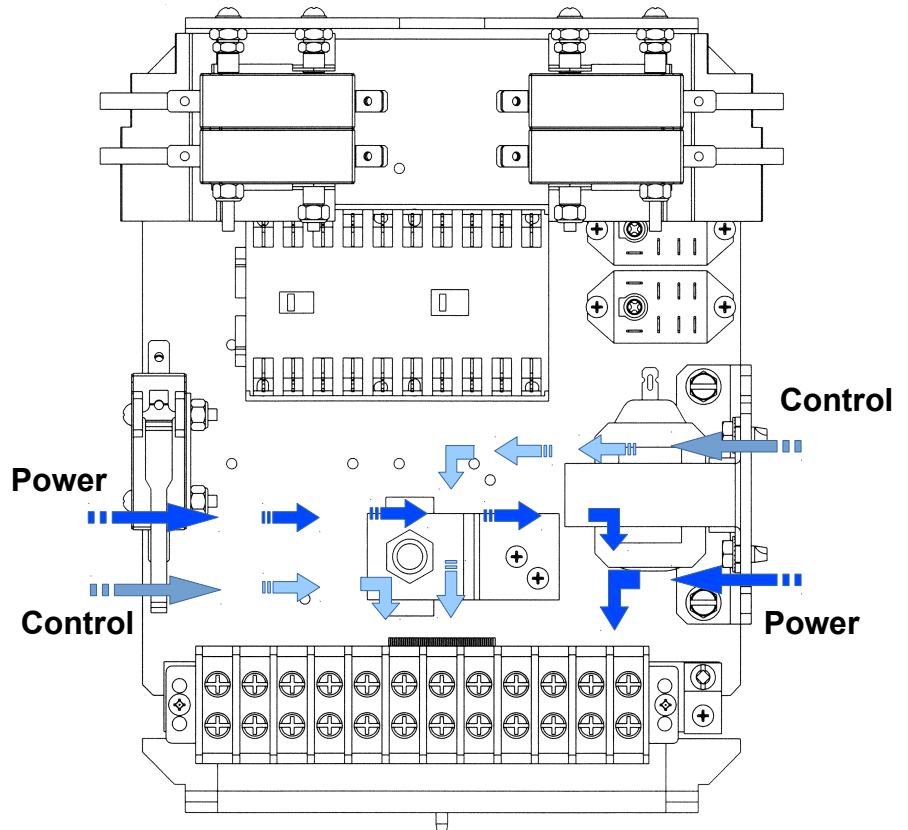

Figure 7 - Low Voltage (Controls) and High Voltage (Power) Connections
1. Route the power line wires either from the right or from the left of the control box, as shown in Figure 7.
2. Route all low voltage control wires, as shown in Figure 7. **KEEP LOW VOLTAGE WIRES SEPARATE FROM LINE VOLTAGE WIRES.**